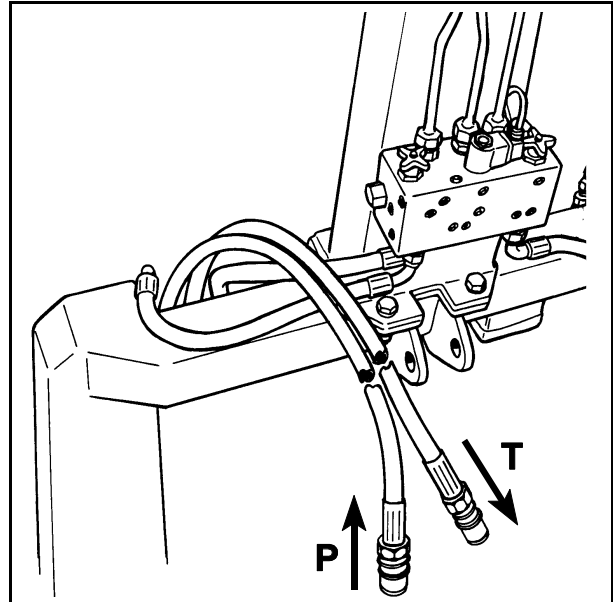

Fig. 4-11
The counter pressure on the return must be as low as possible, and not exceed 10 bar. This should be measured with a gauge. It is recommended to use one single-working hydraulic outlet and arrange a free return circuit to the oil tank. If you are unsure of what oil pressure the tractor gives, or what oil pressure the balewrapper receives, please contact your machinery dealer. Generally all tractors have got some counter-pressure in their hydraulic return systems. Some tractors have more than others. **Hose with red cap shall be connected to pressure, (P), and hose with blue cap to the return. (T).** (See fig. 4-11).